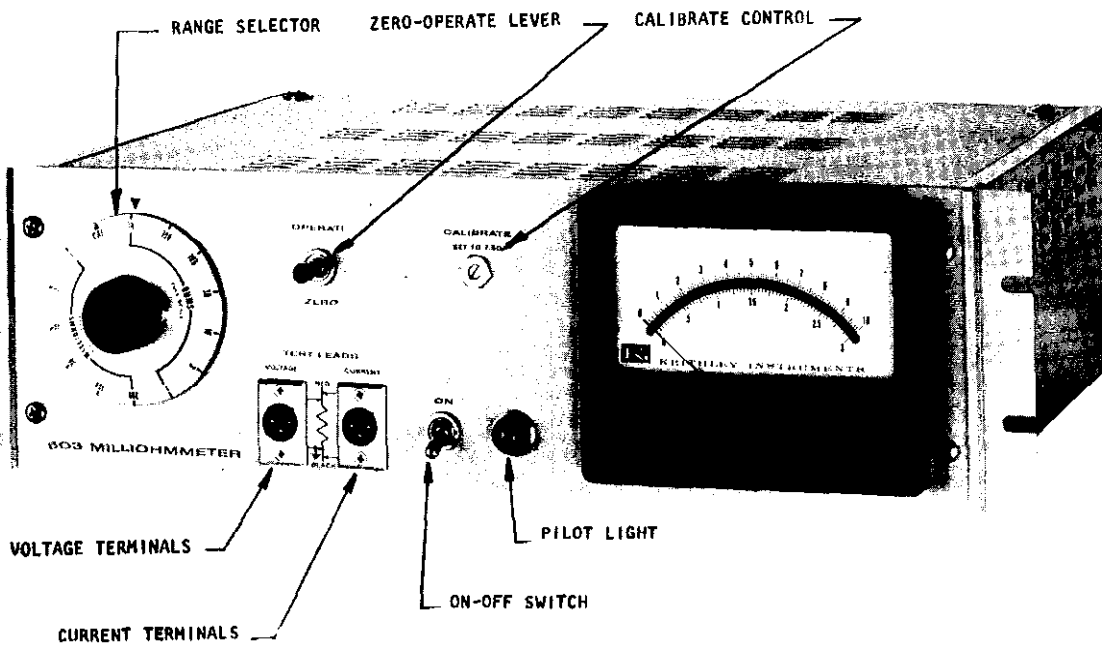

FIGURE 3. Model 503 Controls.
1. RANGE SELECTOR: The RANGE SELECTOR has six milliohm positions ranging from 1 milliohm to 300 milliohms, and seven ohm positions ranging from 1 ohm to 1000 ohms. A CAL position is provided for instrument calibration. (Fig. 3)
2. ON: Toggle switch is the main power switch. Presence of power is indicated by the illuminated front panel pilot lamp. (Fig. 3)
3. OPERATE-ZERO: This is a lever switch. With the switch in the up (operate) position the 503 is ready to take measurements. In the down (zero) position the 503 is in zero check. (Fig. 3)
4. CALIBRATE: This control is used to calibrate the meter and the output voltage of the 503. It is a recessed slotted control that can be adjusted with a screw driver. (Fig. 3)
5. VOLTAGE TERMINALS: A 3-pin male receptacle is used for connection to the voltmeter circuit. Pin No. 3 is at chassis ground. Either test lead can be plugged into this receptacle. (Fig. 3)
6. CURRENT TERMINALS: A 3-pin male receptacle is used for connection to the current source. Either test lead can be plugged into this receptacle. (Fig. 3)